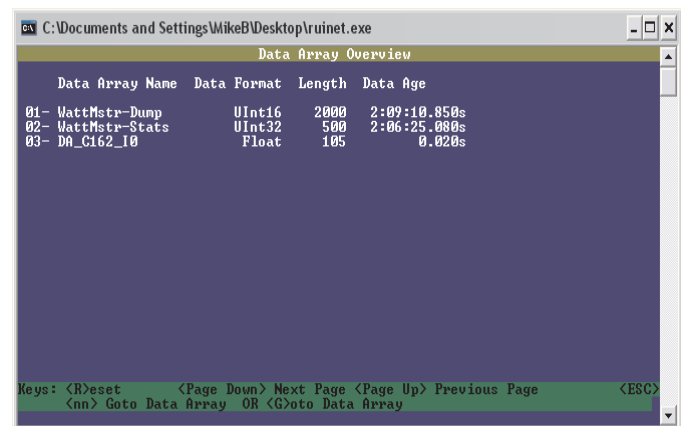

Figure 23: Data Array Overview Screen
19.) From the *RUINET Main Menu*, type <A> for the Data Array Overview. The *Data Array Overview Screen* will display (**Figure 23**).
20.) This screen (**Figure 23**) will verify communication to the HVAC units. Lines 1 & 2 should always be present. After a start-up period of approximately 4 minutes, you will see 1 additional line for each HVAC unit. This screen represents the PT Link II communicating with 1 HVAC unit.